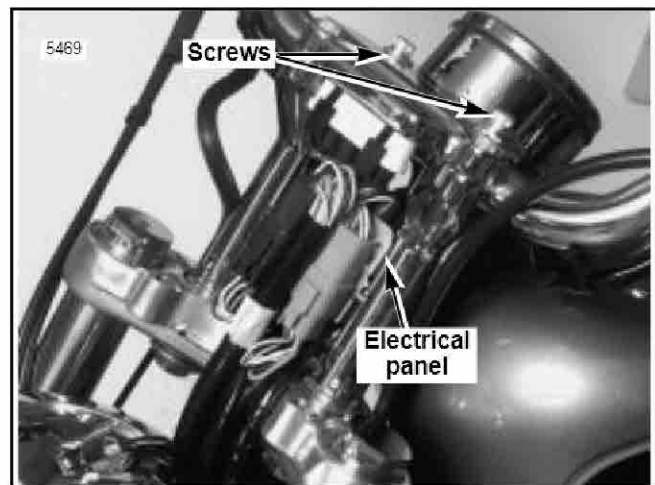
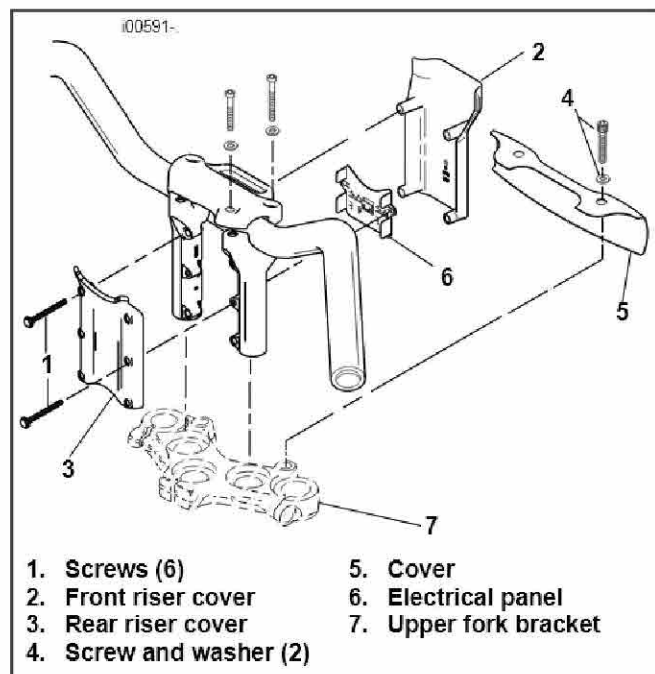

Figure 1. Front View With Riser Cover Removed
Figure 2. Removing Riser Covers
1. See Figure 1. Remove and discard handlebar clamp screws securing speedometer bracket. Gently move speedometer forward and hang from mirror with cable strap.
3. See Figure 2. Remove two bolts and washers (4) securing upper fork bracket cover (5). Remove six screws (1) that secure front (2) and rear (3) riser covers.
4. Remove rear riser cover (3) and front riser cover (2).
5. See Figures 1 and 2. Note how electrical harnesses and connectors are positioned on the front and rear of the electrical panel.
See Figures 1 and 2. Position harnesses on electrical panel so they will not be pinched by riser covers.